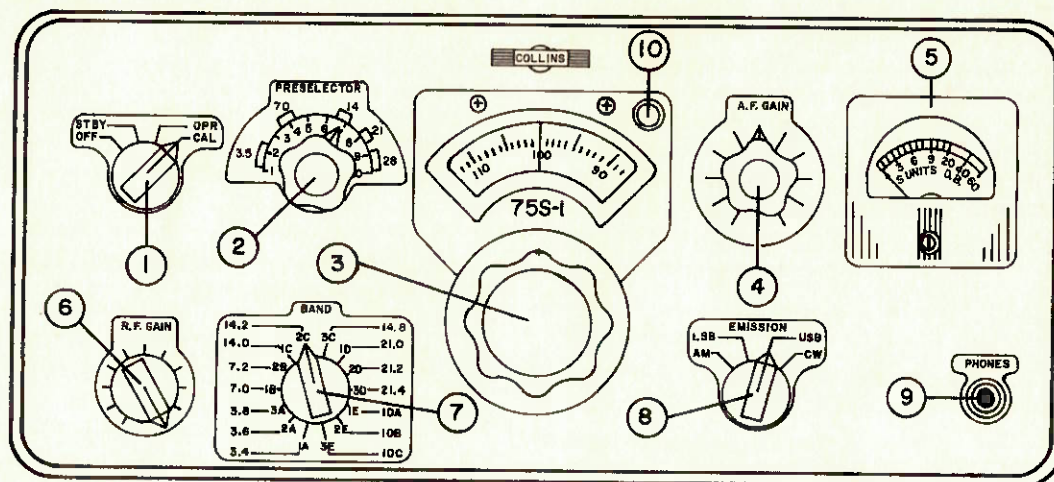

Figure 2-1. Panel Controls
- After making external connections, set controls as shown in figure 2-1.
- Set BAND switch (7) to desired frequency band. Set dial to 0, 100, or 200 with tuning knob (3).
- Adjust PRESELECTOR (2) for maximum signal or noise output.
- Adjust zero set knob (10) until dial is calibrated.
- Set controls as shown in figure 2-1, except set OFF-STBY-OPR-CAL switch (1) to OPR.
- Set EMISSION switch (8) to desired sideband.
- Peak PRESELECTOR control (2) for maximum signal or noise output.
- Tune in signal, and adjust A.F. GAIN (4) for desired audio output level.